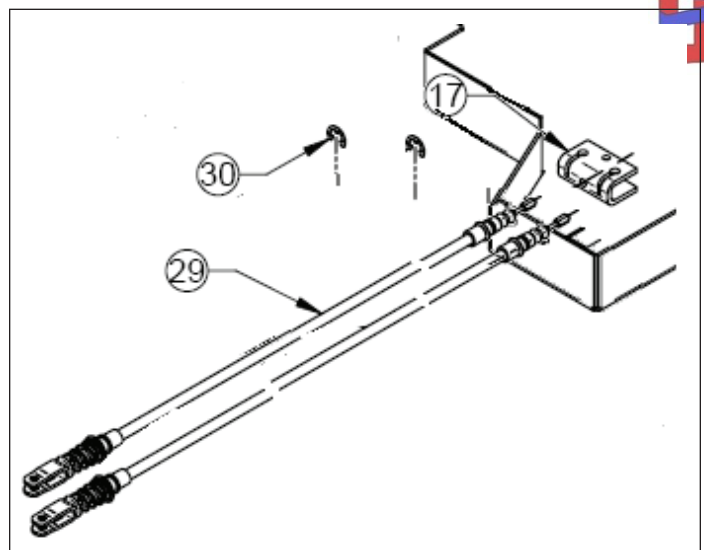

Figure 5-11. Brake Cable Removal/Installation
4. Remove e-ring (30) and brake cable (29) from vehicle (Figure 5-11).